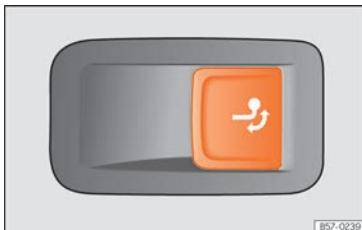

Fig. 194 On the left side of the luggage compartment: button for unlocking the tow hook.
- Pull the button » **Fig. 194** briefly. The tow hook unlocks electrically and automatically
- Pull the button » **Fig. 194** briefly. The tow hook unlocks electrically.
- If the warning light on the button » **Fig. 194** → *flashes*, this means that the tow hook has not been attached properly or is damaged » .
- If the warning lamp » **Fig. 194** → *remains* on with the rear lid open, the tow hook is correctly in place both when extracted and when covered.
- Never press the button » **Fig. 194** when there is a trailer hooked to the vehicle or when a carrier system or other accessories are mounted on the tow hook.